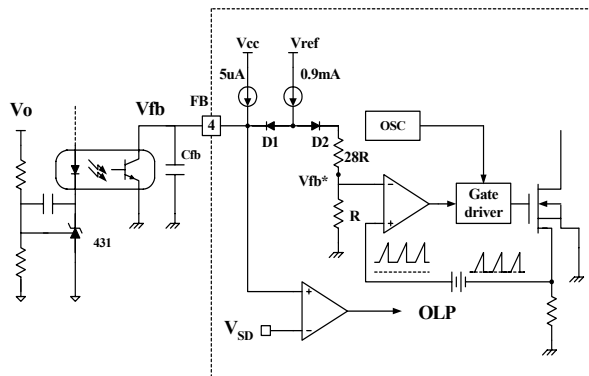

Figure 2. Pulse width modulation (PWM) circuit
2. Feedback Control : The FS6X1220R employs current mode control. The voltage of the feedback pin is compared with the current sense voltage for pulse width modulation (PWM). Figure 2 illustrates the simplified PWM block. The feedback voltage determines the peak drain current of the SenseFET. Usually opto-coupler along with TL431 are used to implement feedback network. The collector of the opto-coupler transistor is connected to feedback pin and the emitter is connected to the ground pin. When the voltage of the reference pin of TL431 exceeds the internal reference voltage of 2.5V, the opto-coupler diode current increases, pulling down the feedback voltage.
3.1 Pulse-by-pulse current limit : As shown in figure 2, the drain current of the power MOSFET is limited by the inverting input of PWM comparator (V_{fb}^*). Assuming that the 0.9mA current source flows only through the internal resistor ($28R + R = 2.9k$), the cathode voltage of diode D2 is about 2.6V. Since D1 is blocked when the feedback voltage (V_{fb}) exceeds 2.6V, the maximum voltage of the cathode of D2 is 2.6V. Therefore, the maximum value of V_{fb}^* is about 0.1V, which limits the peak value of the power MOSFET drain current.